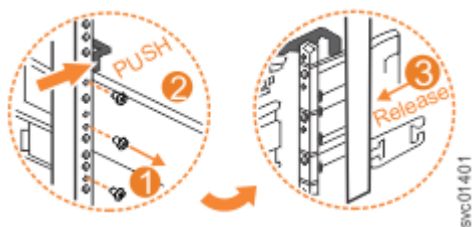

Figure 113. Remove the rail assembly from the rear frame bracket
3. Remove the two screws that attach the inner rail section to the rear bracket, as shown in Figure 113 on page 165.
4. Pull the rail forward away from the rear bracket, as shown in Figure 113 on page 165.